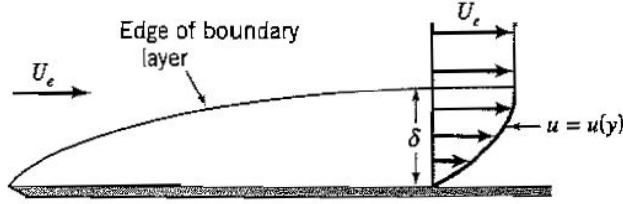

Figure P9.8
9.8 A constant density, constant pressure laminar boundary layer is growing on flat plate of width W in a stream of velocity U_e , as shown in Figure P9.8. Show that the total drag force F acting on the plate is given by $F/\rho U_e^2 \delta W = (4 - \pi)/2\pi$ when the velocity profile is given by